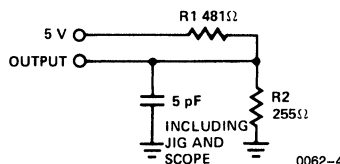

Figure 1b
- t_{HZCE} and t_{HZWE} are specified with C_L = 5 pF as in *Figure 1b*. Transition is measured ± 500 mV from steady state voltage.